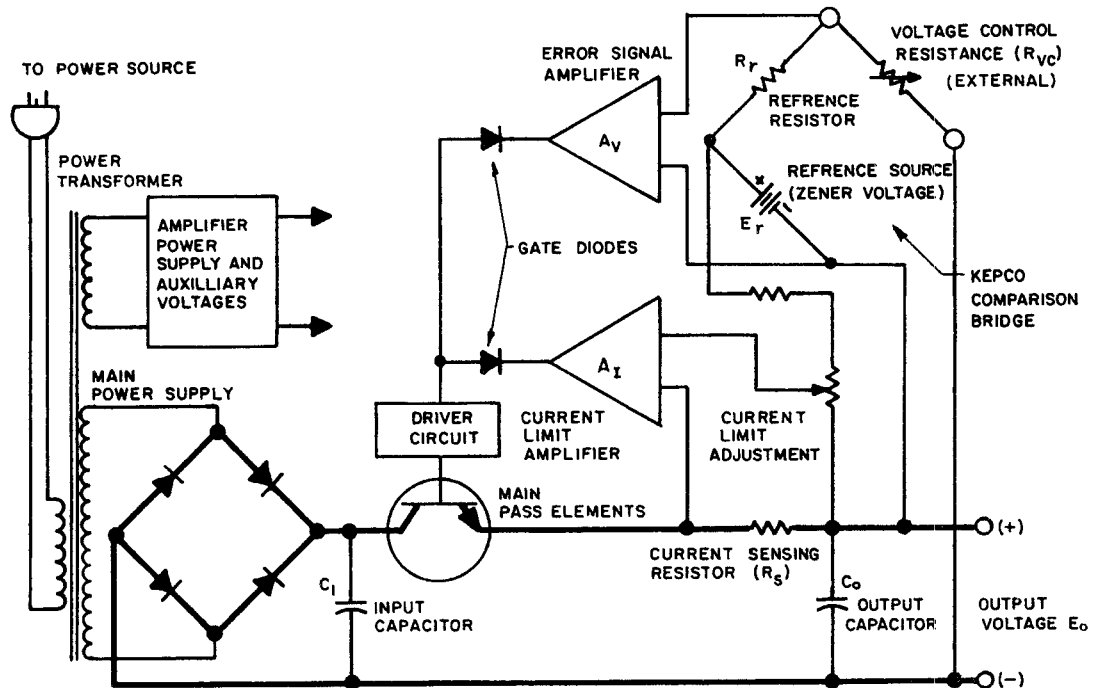

FIG. 4-1 SIMPLIFIED DIAGRAM, PAT POWER SUPPLIES.
(References in CAPITAL LETTERS refer to the nomenclature used in FIG. 4-1.)
4-1 SIMPLIFIED DIAGRAM DISCUSSION. (Refer to FIG. 4-1.)
- a) A-C INPUT CIRCUIT. A-C input power is introduced through rear barrier-strip TB1, terminals (1) and (2). Terminal (3) is connected to the chassis and should always be returned to a-c ground. The fuse (F1) protects the primary of the power transformer (T201) from excessive current. T201 has two primary windings which are connected either in parallel (for 115V a-c service) or in series (for 230V a-c service).
- e) THE COMPARISON BRIDGE. This 4-arm electrical bridge circuit is the regulating and controlling element in many Kepco Power Supplies. In the PAT models it consists of the reference voltage E_r (CR8), the reference resistor R_r (R15 and the optional bridge current adjustment rheostat R16), the voltage control resistance R_{VC} [either the optional internal control R13 or the resistor externally applied between terminals (11)–(12) on TB1], and the output voltage E_o . As shown in FIG. 4-1, the internal reference voltage E_r in series with the reference resistance R_r is continuously compared with the output voltage E_o in series with the voltage control resistance R_{VC} . At balance ($E_{AA'} = 0$), a constant bridge current I_b flows through the bridge, keeping the error signal at bridge terminals A–A' at approximately zero volts. Any deviation in E_o caused by a-c source, load variations, or other influences will tend to change I_b in the bridge circuit and thereby produce an error signal at the bridge terminals A–A'. This error signal is then amplified by the error signal amplifier A_V and acts as a control signal for the series regulator or pass element changing the voltage drop across it in such a way as to restore the previous output voltage level.